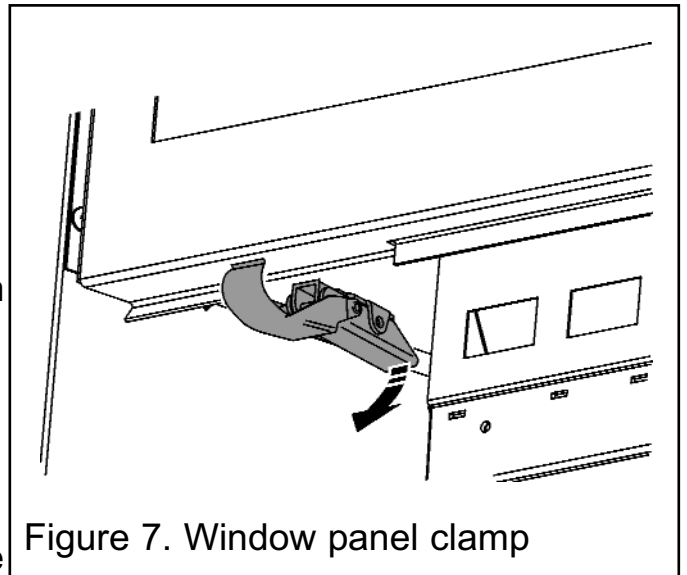

Figure 7. Window panel clamp
2. The window panel is secured at the bottom with two clamps. To release the clamps, hold at the rear and pull down (See figure 7).